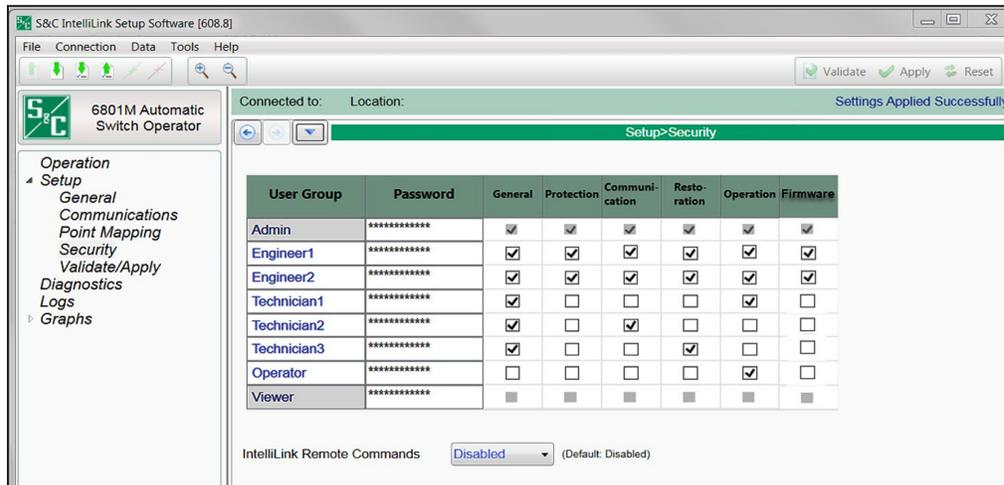

Figure 54. The Setup>Security screen.
STEP 5. If the password change validates successfully, click on the **Apply** button to finish the password-change process and configure the new password on the control. See Figure 54. Go to Step 6 if the password change was not validated successfully.
Only a user logged in as Admin (administrator) can make changes to this screen. See Figure 54. The User Group name can be changed for all groups except Admin and Viewer. All passwords can be changed, and all default passwords must be changed by the Admin at initial login.